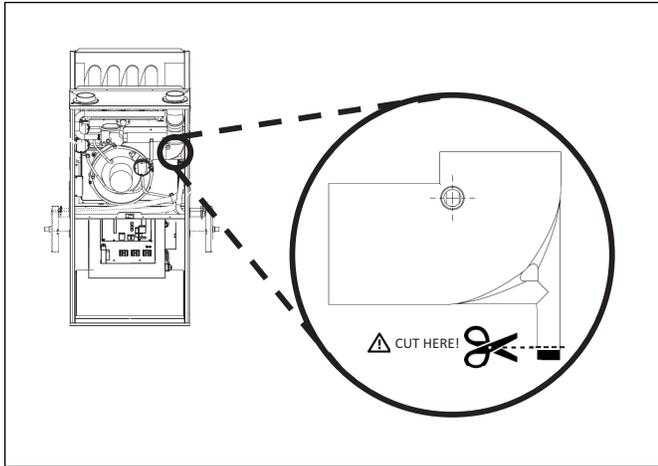

Figure 13
10. Cut and remove 1/4" off from the end of the bottom inducer drain port. Reference Figure 13.
8. Cut and remove 1/4" from the end of the inducer drain port. Reference Figure 13.